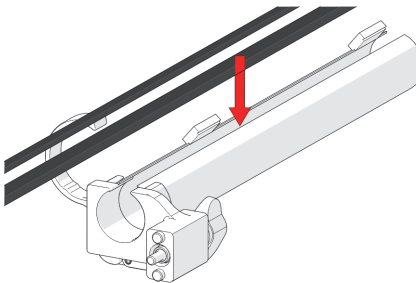

Figure 2-127 Insert cables and hoses
1. Open the cable management tube and, beginning at the clamp end, start placing the cabling in the tube (see Figure 2-127 on page 145).